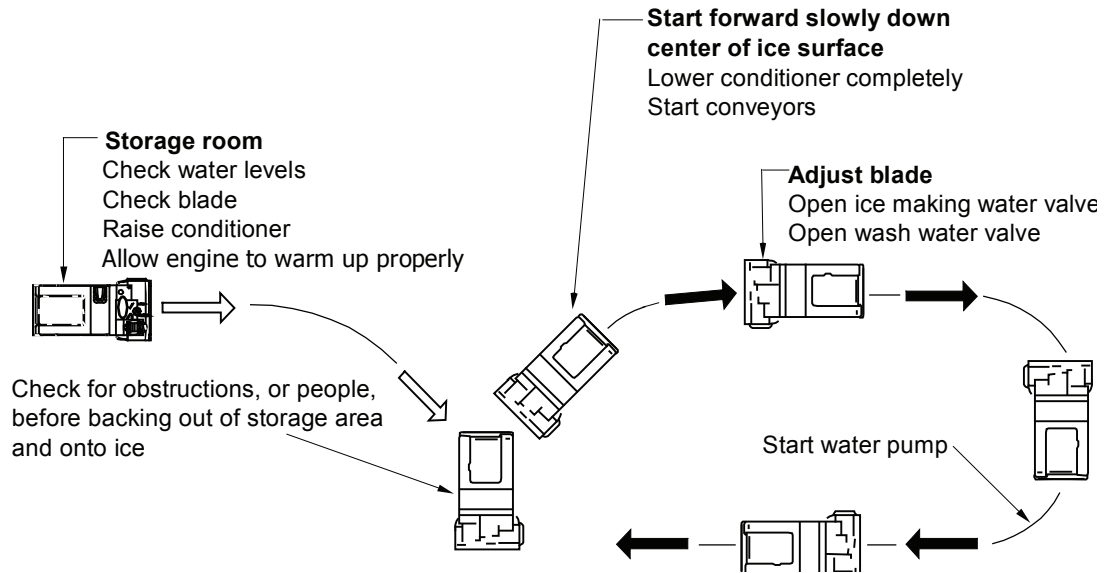

Figure 7.4 *Going onto the Ice*
- Proceed from the storage area onto the ice (see Figure 7.4);